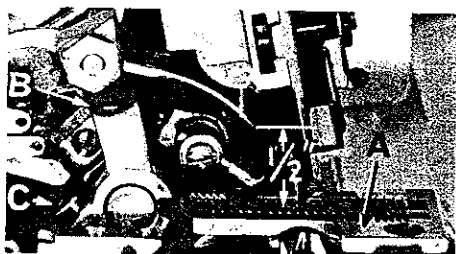

Fig. 3
With throat plate assembled in position, needle should center in the front end of needle slot. When needle is at high position, needle point should be set $1/2$ inch above throat plate (A, Fig. 3) for styles 39500 FS, FT, FU, GT, and JP; $15/32$ inch for Styles 39500 GD and GL. To align needle or set the height above the throat plate, move needle driving arm (B, Fig. 3) by loosening clamp screw (C). After needle has been set properly, tighten clamp screw and remove throat plate.